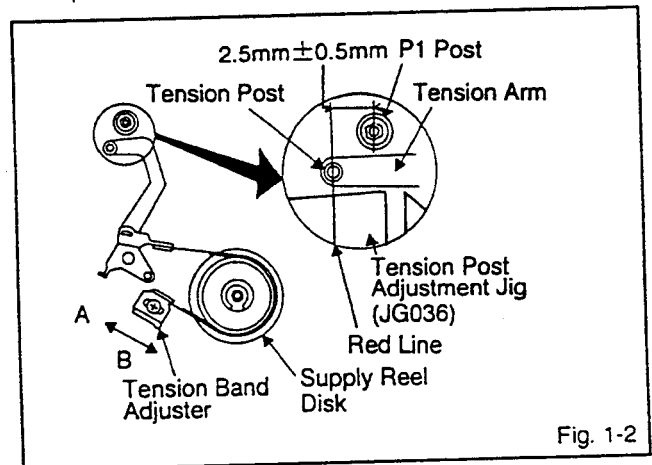

Fig. 1-2
2. Move the tension band adjuster to the "A" or the "B" direction to set tension post adjustment jig red line to the round center of the tension post. (Refer to Fig. 1-2) When you don't use the jig (JG036), adjust tension arm so that the measurement from the round center of the P1 post to the round center of the tension post is $2.5\text{mm} \pm 0.5\text{mm}$. (Refer to Fig. 1-2)